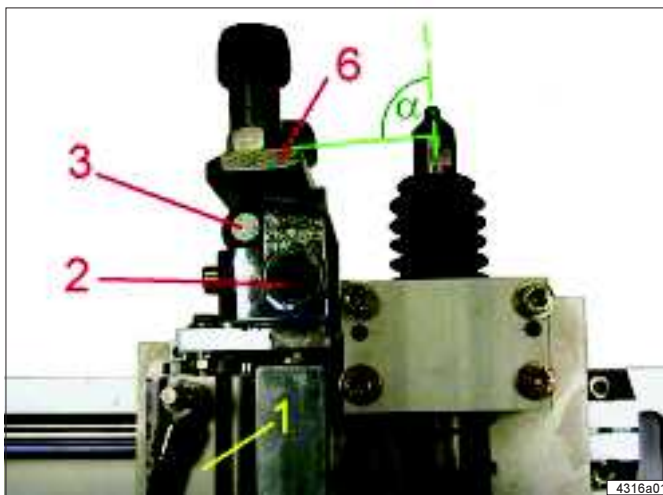

Fig. 5: Swing-out mechanism
- Determine horizontal installation position acc. to Fig. 5.
Important: The pick-up arm must be set when the COBRA 501 is in a correct horizontal position (see Fig. 5: normal distance 20mm with retracted cylinders of the pick-up arm and lubrication head).